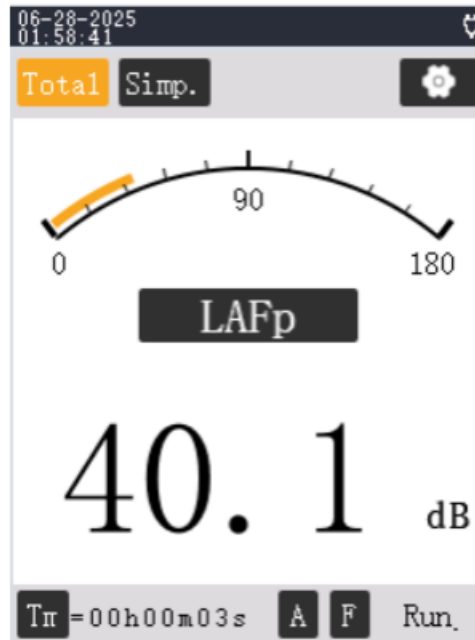

Figure 6.7
When switched to Lxymax. (Max Hold) (Figure 6.7), the maximum value updates only when a higher sound pressure level is detected. If sound pressure level remains below the current Lxymax., the max value can be manually updated by pressing the OK key. When switched back to instantaneous values (Lxyp/Lxeq,t), updates occur every 0.5 seconds.
- a. Measurement Status: Initial state is "Ready." Press the "Start/Pause" key to change the status to "Measuring." Pressing again changes to "Paused." Once the measurement is complete, the status will change to "Finished" (see Figure 6.7).